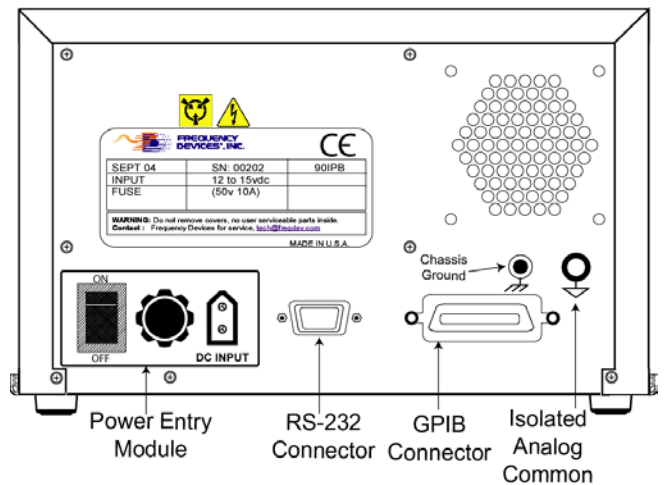

Figure 2.1c – 90IPB Rear Panel
3.5 – DC Line Voltage Operation (90IPB) - See Figure 2.1c